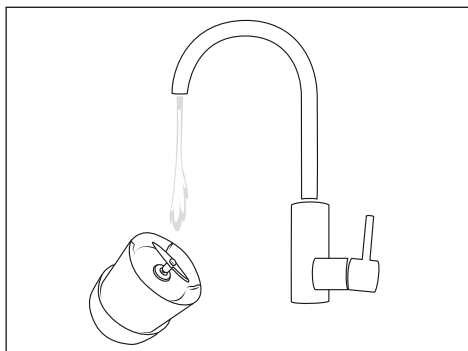

Fig. 2
- ◆ Rinse only the cross blade **8** carefully, if necessary using a scrub brush, under running water. Make sure that no water flows onto the lid **1**, and do not immerse it in water! Tilt the appliance so that only the cross blade **8** is in the water stream (see Fig. 2).